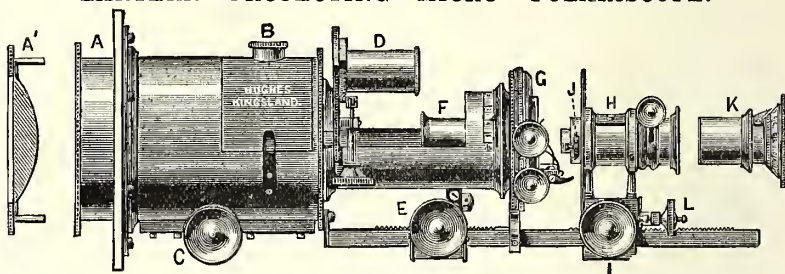

Fig. 55.
Fig. 55 illustrates this instrument which has all the latest improvements made up to the present time and has the polarizing prisms fitted, so that nearly all the experiments both in polarized light and projection can be shown to the class without in any way altering the instrument, a very great advantage to the demonstrator.
Reference to Fig. 55, shows—(A) cells containing condensers, one of which is fitted in cell upon a moveable rack work.—(C) by which means the amount of divergence of rays can be altered, this arrangement is for use with electric light, when the oxyhydrogen is used, the third lens (A') marked for "lime light only" must be added.—(B) Alum trough.—(D) polarizing prism made to rotate by means of milled head, this is shown in drawing thrown out of position, and is so placed when the ordinary projection microscope is in use, the aperture of body being covered by a moveable lid.—(E) rack work adjustment for substage condensers and all apparatus used behind the object.—(F) substage condenser. (G) mechanical rotating stage having $\frac{3}{4}$ " motion in rectangular directions and is divided to 360 for use in crystallography.—(H) object glass holder on rack work which admits of focussing the different objectives.—(L) fine adjustment by means of $\frac{1}{16}$ " thread screw, this admits of the most delicate manipulation and is indispensable when high power objectives are in use.—(K) analyzing prism rotating mount also divided to 360°.—(J) dovetail slot in object glass holder to carry the quarter wave plate and Kleins quartz immediately behind the objective.